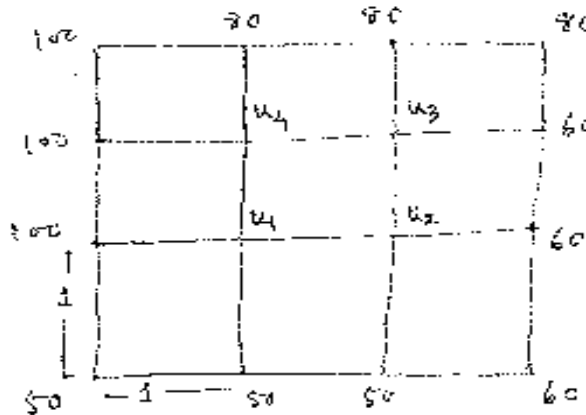

Fig. 11(a)
11. a) Solve the Laplace equation $\frac{\partial^2 u}{\partial x^2} + \frac{\partial^2 u}{\partial y^2} = 0$ at the pivotal points of the grid shown in the figure 11(a). 8